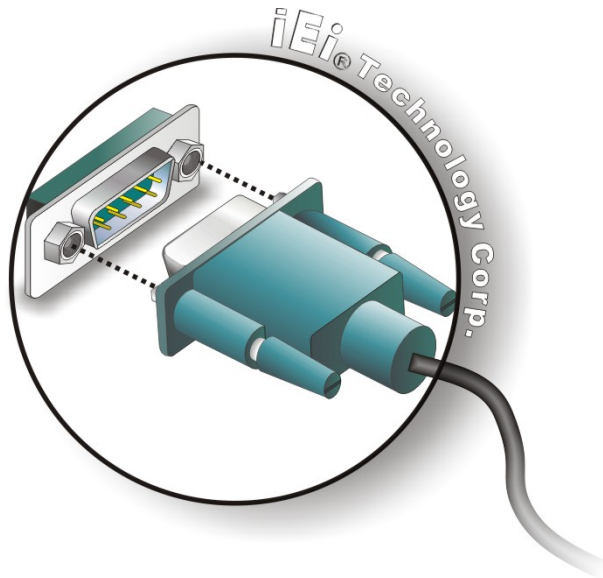

Figure 3-13: Serial Device Connector
Step 2: Insert the serial connector. Insert the DB-9 connector of a serial device into the DB-9 connector on the external peripheral interface. See **Figure 3-13**.